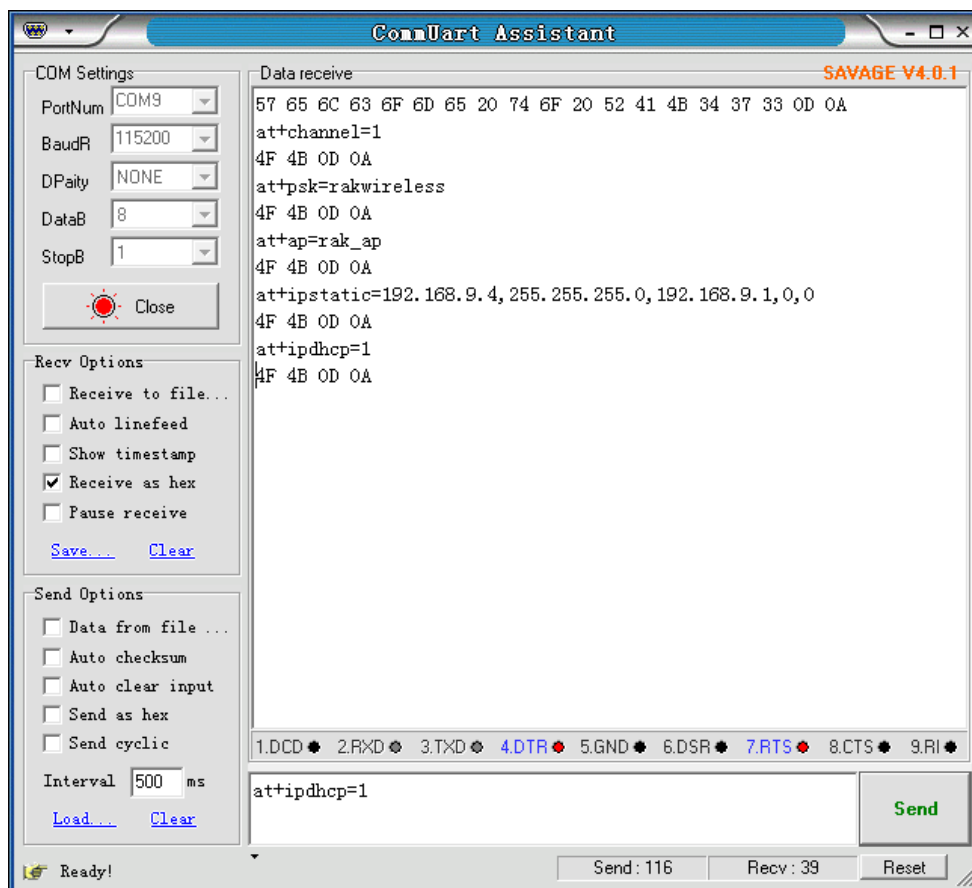

Figure 1-2 Create AP Network
7.At this point, creating AP network is successful (The process is shown in the red box in Figure 1-2).